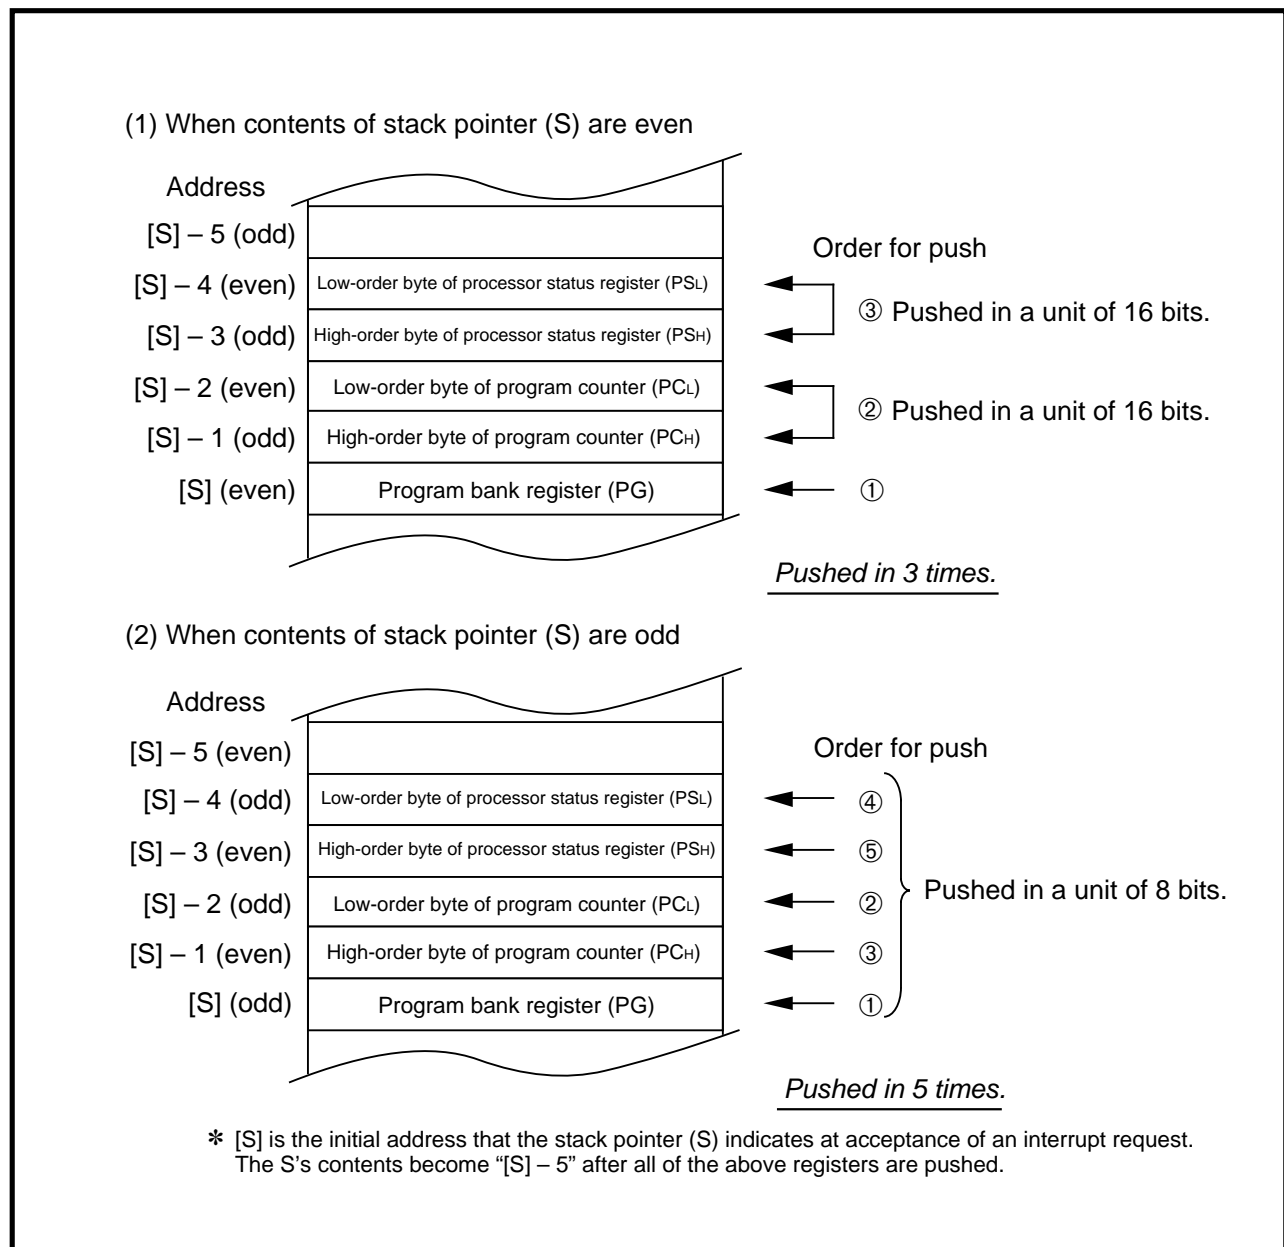

Fig. 6.7.3 Push operation for registers
When the contents of the stack pointer (S) are even, the contents of the program counter (PC) and the processor status register (PS) are simultaneously pushed in a unit of 16 bits. When the contents of the stack pointer (S) are odd, each of PC and PS is pushed in a unit of 8 bits. Figure 6.7.3 shows the push operation for registers.